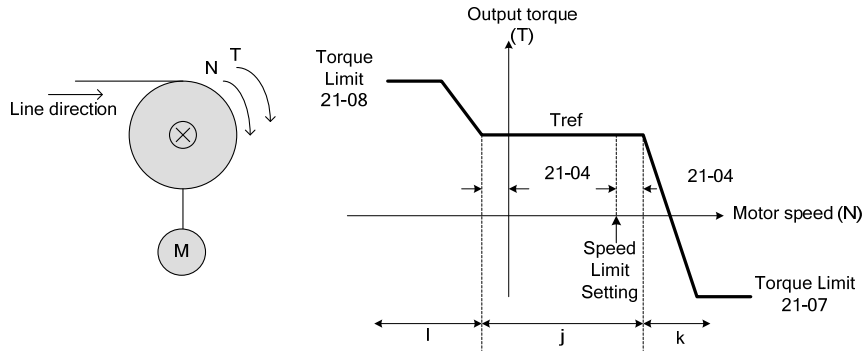

Figure 4.4.130 Winding operation
The line speed (N) and motor torque (T) are in the same direction of the motor. Refer to Figure 4.4.130